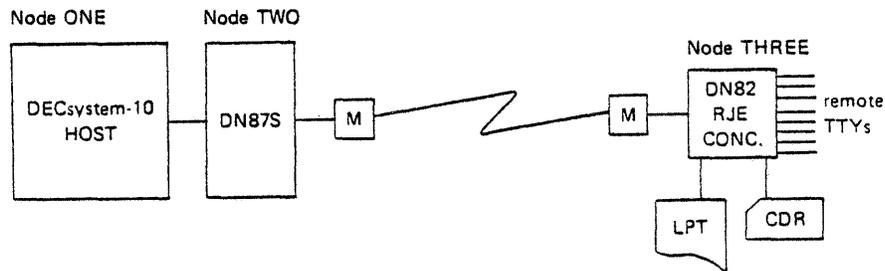

Figure 1-1 Point-to-Point Configuration
1.1.3.1 Simple Topologies - The simplest topologies contain only point-to-point connections. Figure 1-1 shows a network consisting of one direct link between the two nodes TWO and THREE.